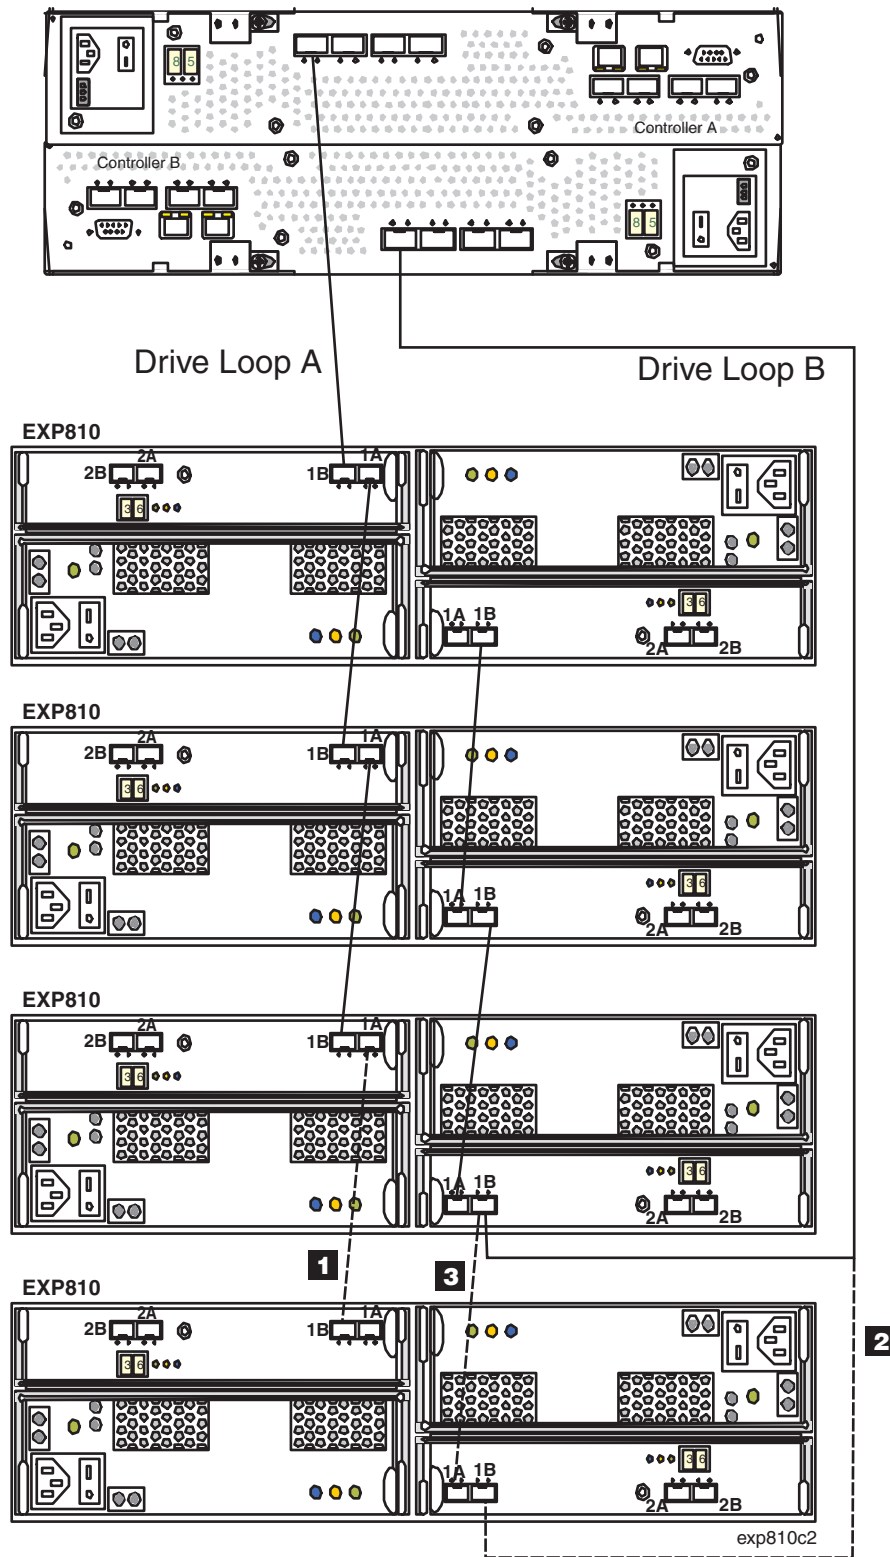

Figure 48. Cabling the EXP810 to an existing and configured drive loop
Figure 48 on page 89 shows an example of a DS4000 storage subsystem configured with redundant drive loop pairs.
The dashed lines in Figure 48 show how to add a new EXP810 to an existing DS4800 configuration with EXP810s. To add the new EXP810 shown in Figure 48, perform the following steps:
4. Make the fibre-channel connection marked **1** in Figure 48 on page 89 (drive loop A) by connecting port 1A of the existing EXP810 to port 1B of the new EXP810. Then verify that it is recognized by the DS Storage Manager software GUI.
5. Move the existing fibre-channel connection marked **2** in Figure 48 on page 89 from the existing EXP810 enclosure ESM port 1B to the new EXP810 enclosure ESM port 1B.
6. Make the fibre-channel connection marked **3** in Figure 48 on page 89 (drive loop B) by connecting port 1A of the new EXP810 to port 1B of the existing EXP810.